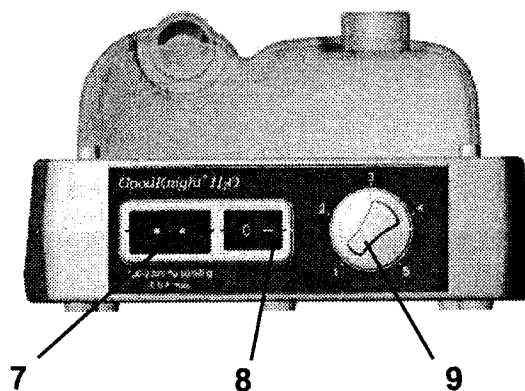

Figure 2 – Rear view
A green indicator that illuminates when the device is connected to an AC power outlet and the ON/OFF switch is in the “1” (on) position (Figure 2).
1. Connect the power cord to the *GoodKnight H2O* heated humidifier supply connector (Figure 2, item 7 on page 3) and to an AC power outlet.
3. Start the *GoodKnight H2O* heated humidifier by pressing the ON/OFF switch (Figure 2, item 8 on page 3). The green operating indicator illuminates.
4. Adjust the humidification using the heater power adjustment dial (Figure 2, item 9 on page 3). Humidification is highest when the dial is set to 5.
1. Turn the *GoodKnight H2O* heated humidifier off by pressing the **ON/OFF** switch (Figure 2, item 8 on page 3).